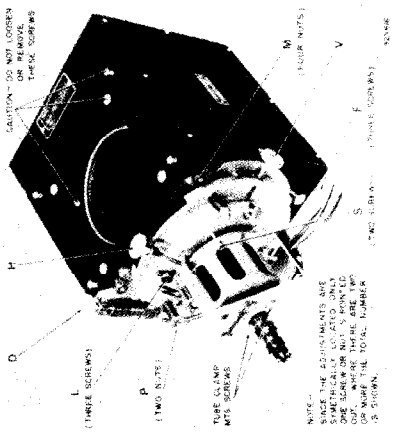

Fig. 11. Projection unit, mechanical adjustments. Mechanical Adjustments - Refer to Fig. 11. for location of adjustments.
2. Loosen the four thumbscrews marked "M" in Fig. 11, which hold the mounting and alignment assembly to the optical housing of the projection unit. Rotate the assembly clockwise slightly to permit its removal and withdraw with care.
3. Loosen the two screws holding the tube clamp to the tail plate (See Fig. 11.) and while holding the tube so that its flare seats firmly against the deflection yoke, tighten the tube clamp firmly about the neck of the tube. Center the neck of the tube in the hole in the triangular tail plate and tighten the two screws holding the tube clamp to the tail plate. Check to see that the two springs contact the outer coating of the projection tube. This is very important as the outer coating must be grounded.
5. Attach the mounting and alignment assembly to the optical housing and tighten the four thumbscrews (M). If the picture is slightly tilted on the projection screen, loosen these thumbscrews again and rotate the assembly slightly as required. Retighten the thumbscrews.